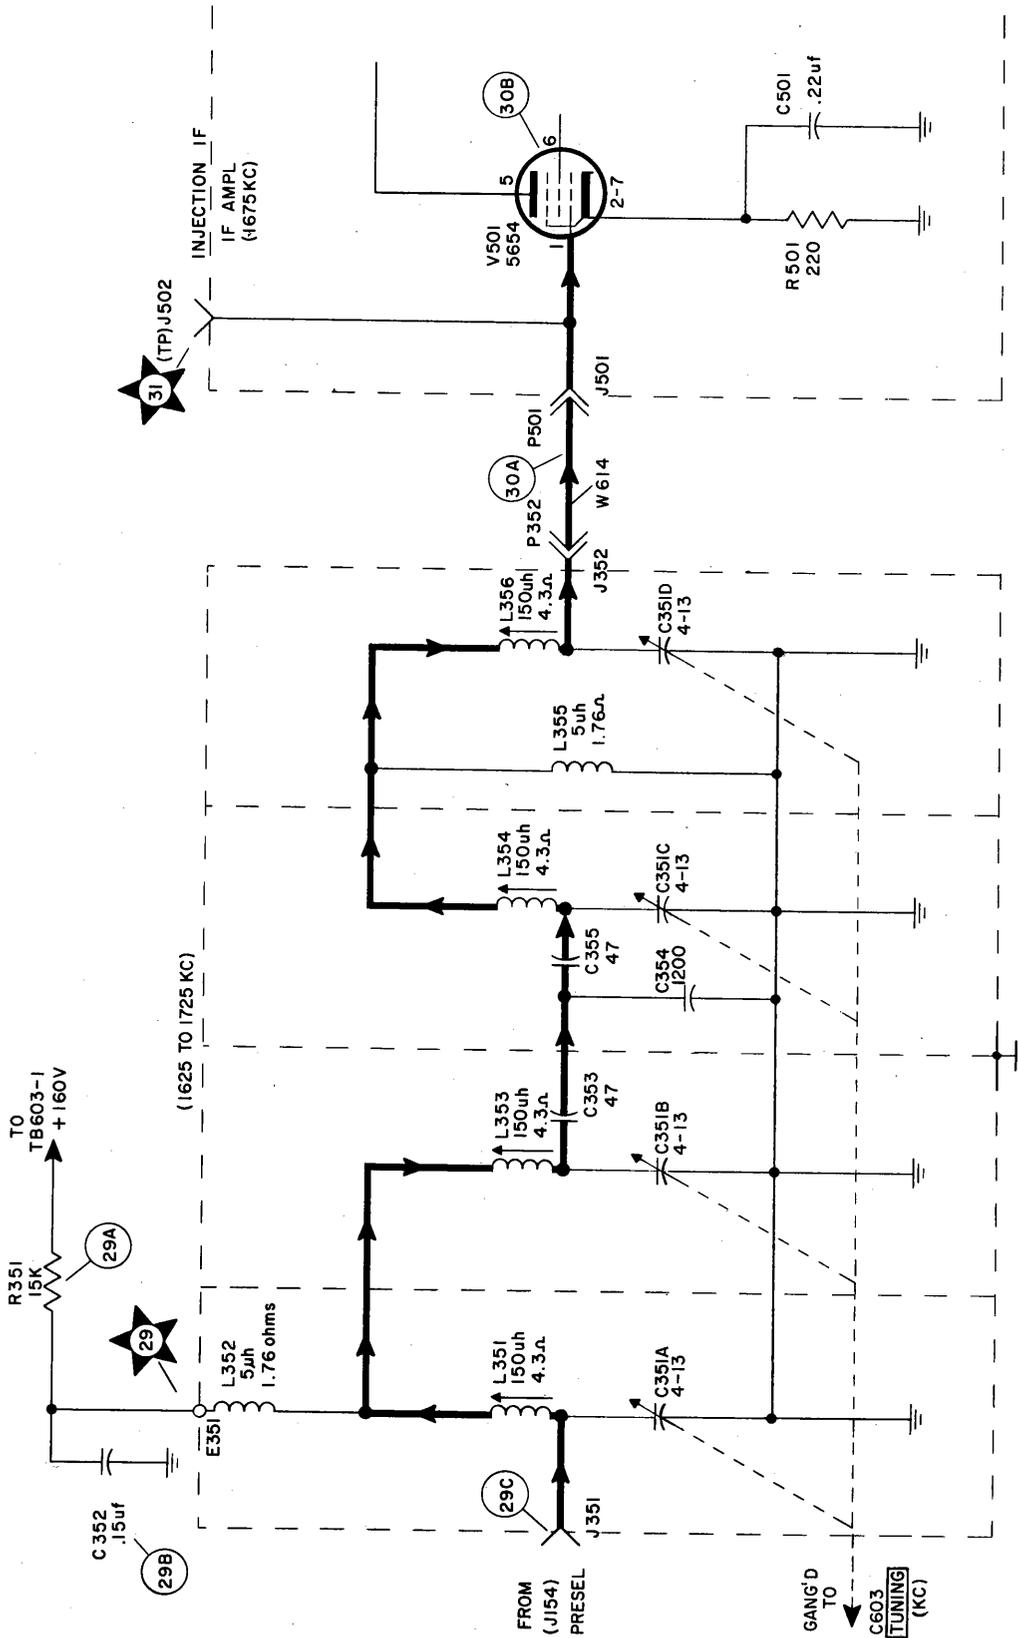
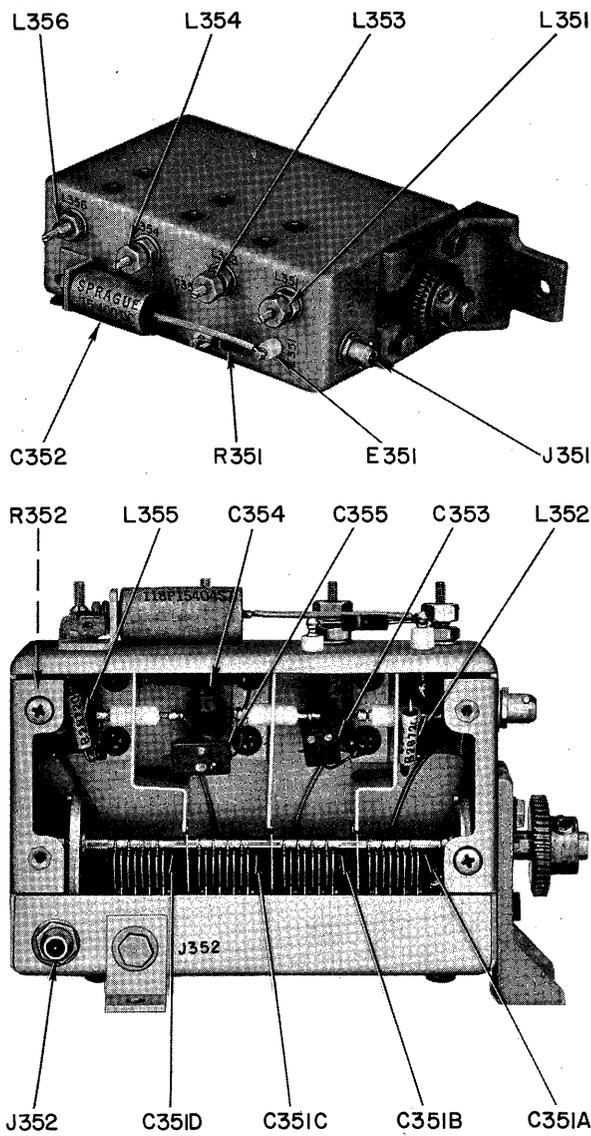

Figure 5-14. Tunable IF Filter, Functional Schematic Diagram
Figure 5-15. Tunable IF Filter, Location of Parts
a. DIAGRAMS.—Figure 5-14 is a functional schematic diagram of the tunable IF filter. Refer also to figure 5-11, the functional schematic diagram of the preselector, because the plate circuit load for V151, the preselector mixer stage, is part of the tunable IF filter circuit. Figure 5-15 shows the location of parts of the tunable IF filter and figure 5-16 the location of test points.
- (1) Input and output connectors J351 and J352
- (2) Soldered connections at chassis feed-through E351.